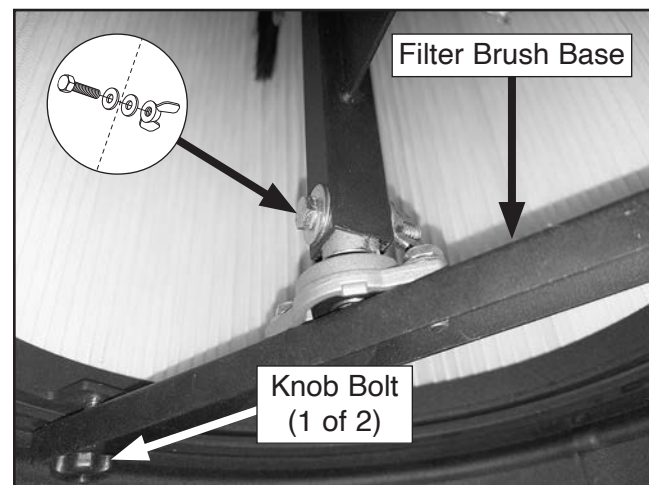

Figure 78. Location of filter brush base and fasteners.
6. Remove hex bolt, (2) flat washers, wing nut and (2) knob bolts, then remove filter brush base (see **Figure 78**).